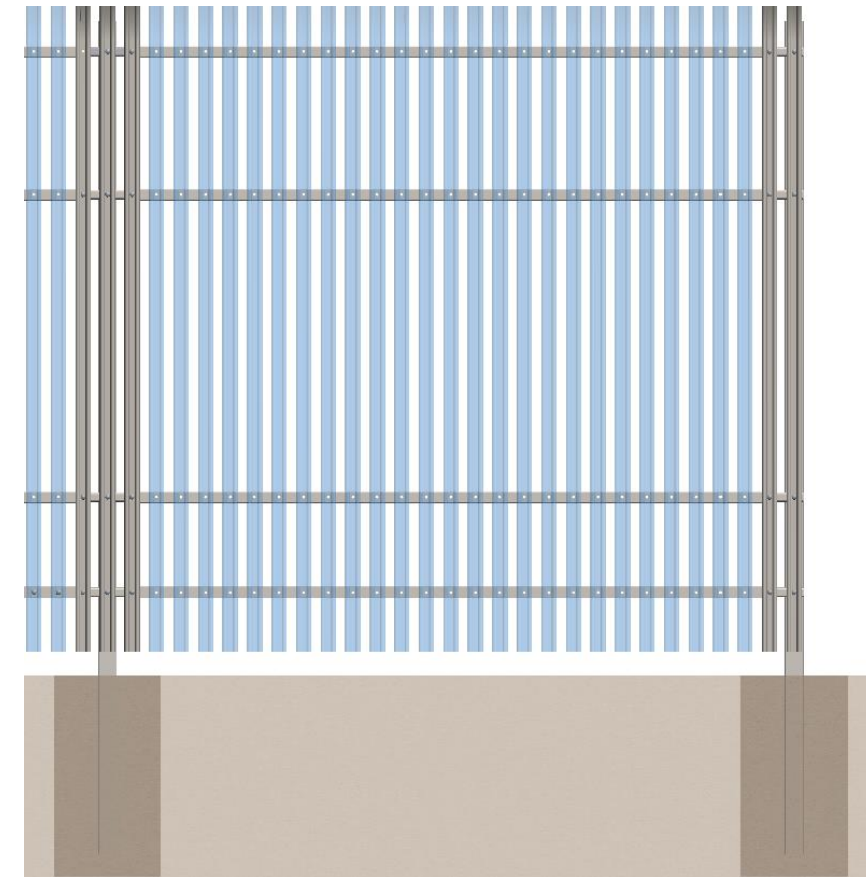

Figure 9
- Subsequently, mount the balance of the pales onto the cross rails using M8x70mm Mushroom Head Bolts, Self-Breaking Nuts and Washers. (Fig. 9)